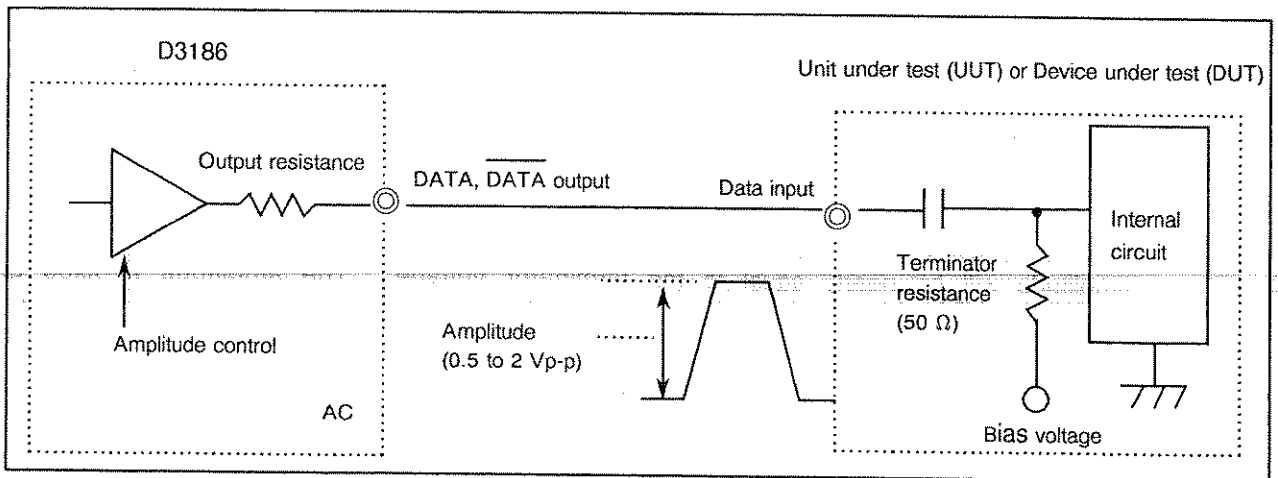

Figure 4-3 DATA and DATA Output and AC Connection
- (3) When the UUT/DUT data input connection is AC (see Figure 4-3.):